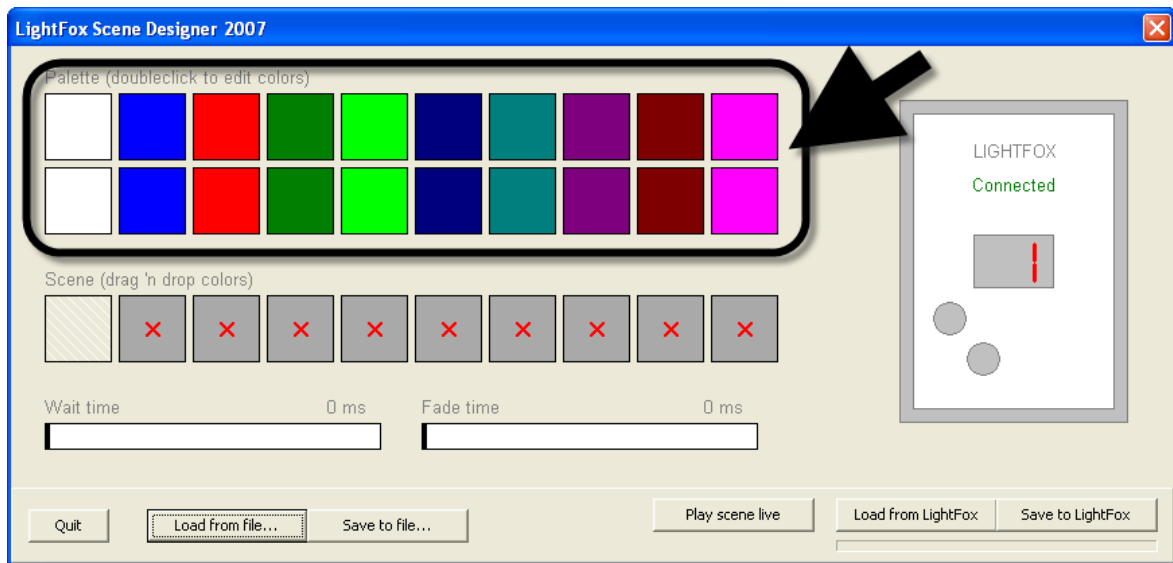

Figure 7: Design Fox Palette
Launching the Design Fox application opens the window shown in Figure 7 on page 14. If a Light Fox controller is correctly connected to your PC, the Light Fox icon on the right of the window will display the word **Connected** in green. Otherwise it will display the word **Disconnected** in red.
1. See Figure 7. Double-click on one of the 20 palette boxes (arrowed).